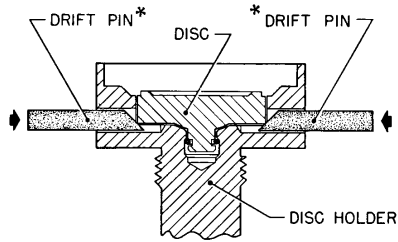

**FIGURE 11**
7. To remove the spindle from the disc holder for D thru M orifice valves, clamp the skirt portion of the disc holder snugly between two wooden V-blocks in a suitable vise (see Figure 11, below). Then compress the spindle retainer with a screwdriver or similar tool through the slots provided, and remove the spindle.
9. For D-T orifice bellows valves, the bellows is attached to the disc holder by right-hand threads. Apply a special spanner wrench\* to the bellows ring, and remove by turning counterclockwise (again, see Figure 11, below). The bellows convolutions are very thin, and fragile, and care should be taken to protect them from damage at all times. Next, remove the bellows gasket. For V and W orifice bellows valves, the bellows is bolted to the guide and disc holder. These bolts should be removed before removal of the guide.